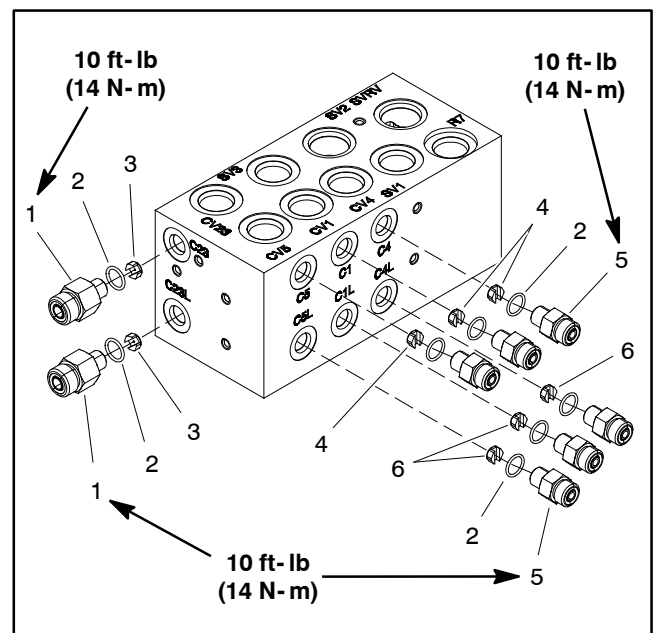

Figure 70
8. Remove two (2) flange head screws that secure manifold to machine frame.
IMPORTANT: A flow control orifice is placed beneath several hydraulic fittings on the lift control manifold (Fig. 70). The lift manifold uses three (3) different orifice sizes. If fittings are removed from manifold and an orifice is in the manifold port, make sure to remove orifice and label its position for assembly purposes.
IMPORTANT: When installing orifice in manifold (Fig. 70), make sure that orifice is flat in the base of the fitting cavity. Manifold damage is possible if the orifice is cocked in the cavity.
- C. Install fittings into manifold (see Hydraulic Fitting Installation in the General Information section of this chapter). Torque fittings to torque values identified in Figure 70.
2. Position lift control manifold to frame. Install two (2) flange head screws but do not fully tighten.
5. Secure hydraulic manifold to frame by tightening two (2) flange head screws.